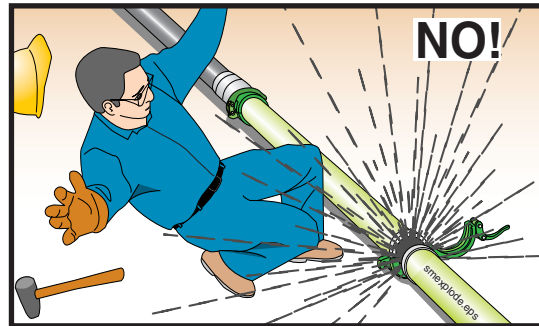

Figure 52
- Pump in **reverse** for **at least two strokes**, then stop the pump. **Do not allow anyone to open the pipeline** until this is done (Figure 52).